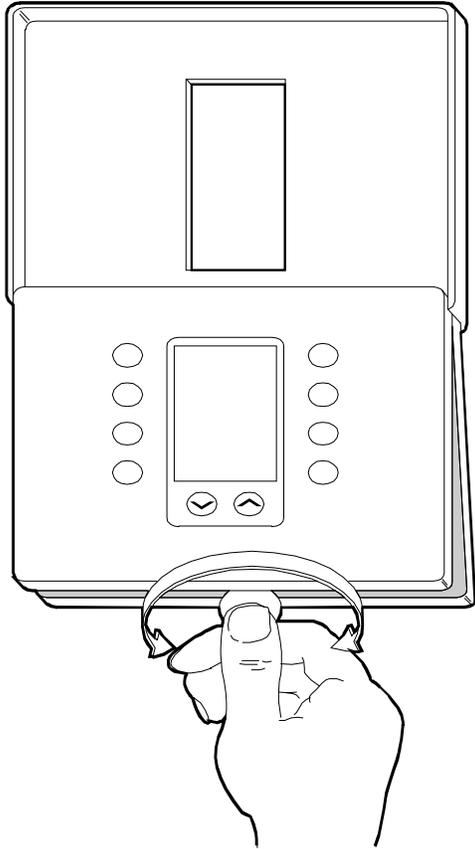

Figure 3: Separating the T500 from the Base
1. Lift the thermostat cover and insert a small coin into the slot located in the bottom center of the thermostat case and twist 1/4 turn. (See Figure 3.) Grasp the base from the bottom two corners and separate from the thermostat.